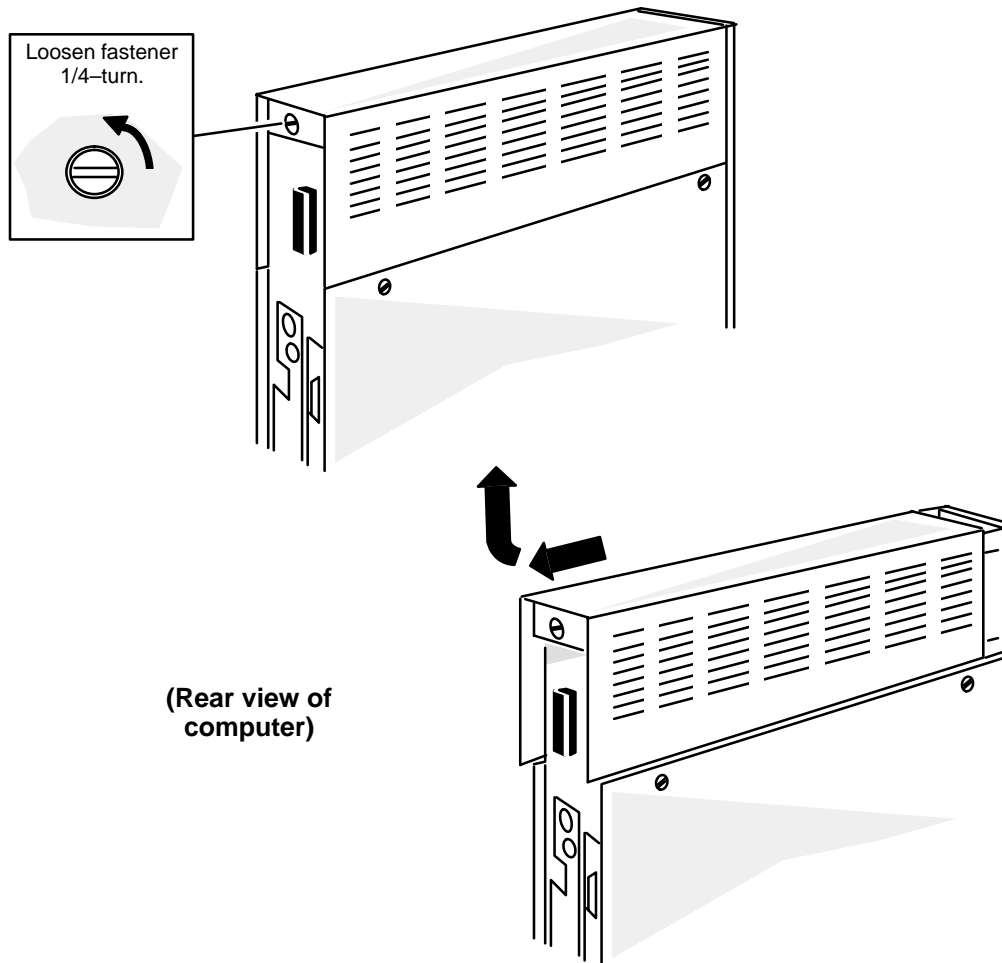

Figure 6-8 Removing the Top Cover
- Using a coin or screwdriver, loosen the fastener by turning it one-quarter turn counterclockwise as shown in Figure 6-8.
3. Push the top cover toward the back of the computer unit and remove the cover as shown in Figure 6-8.